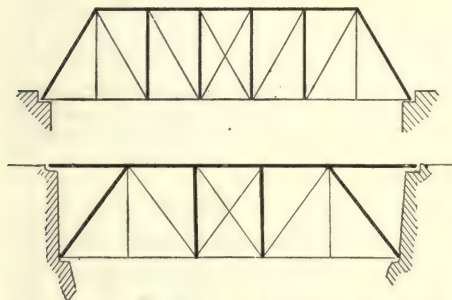

FIG. 123.—Diagrams of the bridges in the plate opposite page 114.
members and which tension, for the compression members are made broad and stiff with "latticing" up their sides, while the tension members are steel straps or rods with enlarged ends to give room for the holes. Thus the heavy lines in figure 123 indicate compression mem-
9. Examine the steel bridges in your neighborhood to see if they are "girder bridges" or "framed bridges," and, if any of them are framed, see whether they are pinned or riveted, and which members are compression members, and which tension. Make a sketch like those in figure 123 of one of these bridges, showing the compression members by heavy lines.